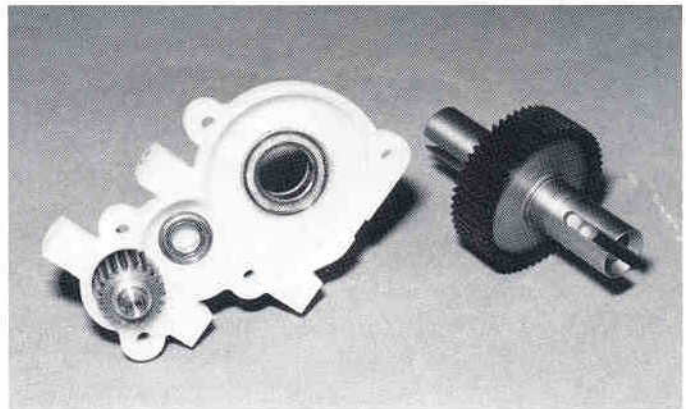
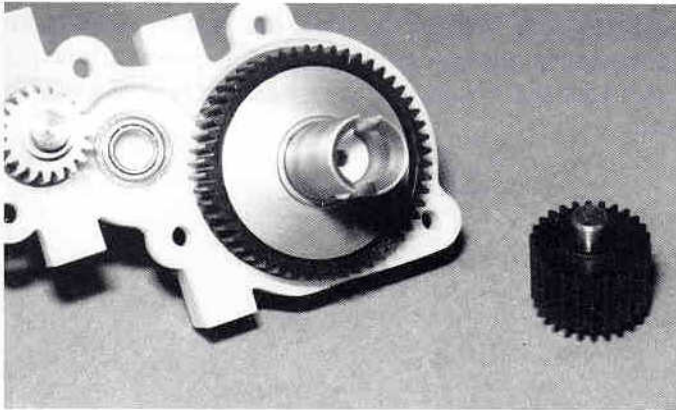

Fig. 76
Fig. 77
□ **Figs. 76 & 77** Install the assembled diff into the right case half lower bearing or bushing as shown in fig. 77. **Note:** Make sure that you install the diff bolt head side through the right case half. If you install the bolt head so that it is on the driver's side of the transmission you may have a problem with the diff bolt backing off.